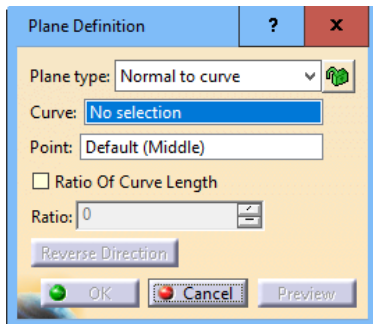

Figure 18-62 The **Plane Definition** dialog box with the **Normal to Curve** option selected
3. Select the **Normal to curve** option from the **Plane type** drop-down list in the dialog box; the **Plane Definition** dialog box is modified, as shown in Figure 18-62.